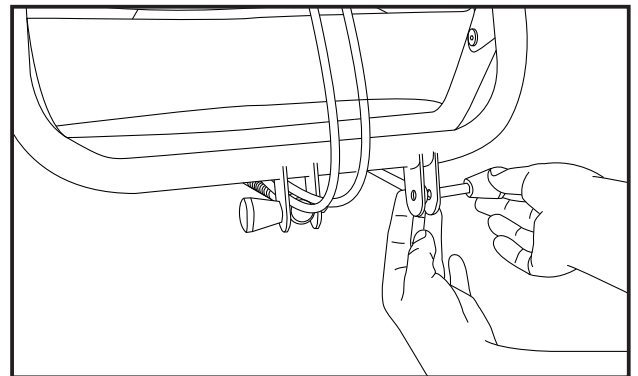

Figure 5
- Pull out the bolt (4A). Place the bar for the pneumatic spring into the bracket and replace the bolt, as shown in Figure 5